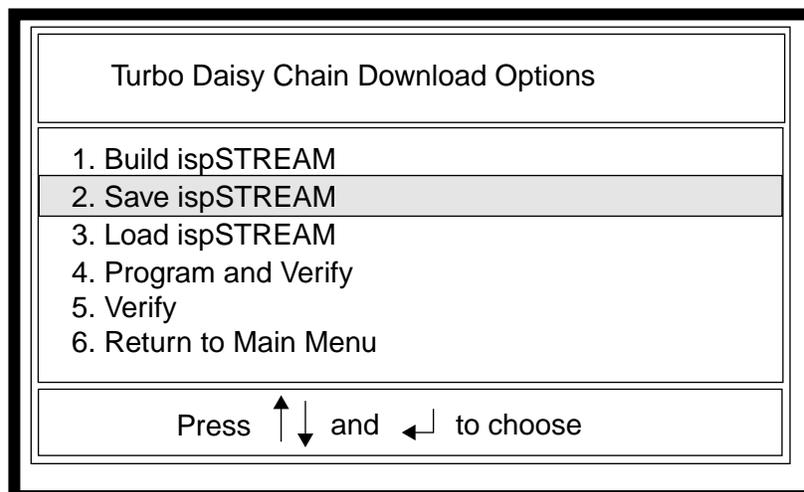
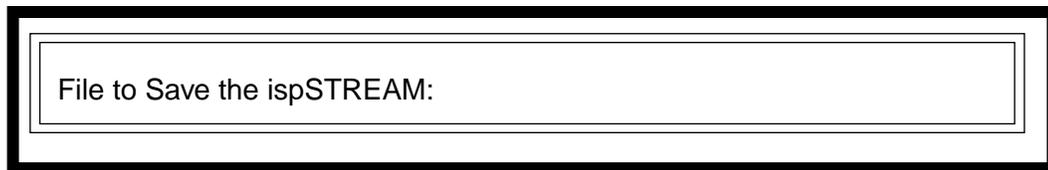

Figure 3-67. Saving ispSTREAM Option
Figure 3-68. Naming the Bit Stream to a File
2. Select **2** or **S** from the Turbo Daisy Chain Options menu to save the stream to a file (Figure 3-67). The File to Save the ispSTREAM: box appears (Figure 3-68).